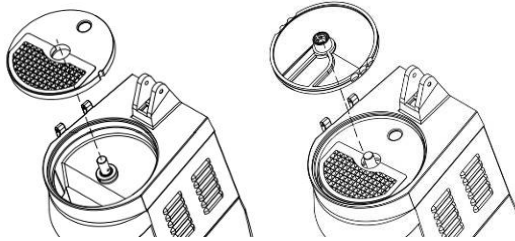

Fig. 10 - Installation of pair of cutting disks PS...-DF...
- First install cutting disk PS... with notch to the right, then cutting disk DF..., rotating it until it is firmly fixed (fig. 10).